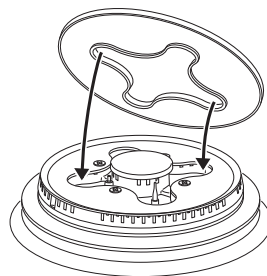

Fig. 38c Positioning the big cap
- Position the big cap in its housing as shown by the arrows in Fig.38c.